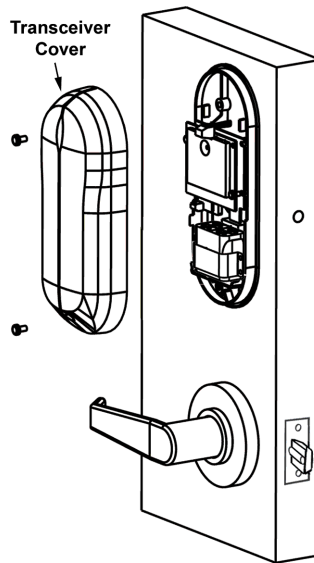

Figure 2-48 – MIRL Transceiver Cover
2.19.3 Install the MIRL Transceiver Cover and fasten with two secure T-10 TORX Transceiver Cover Mounting Screws (6-32 x 3/8") using the T-10 TORX L-key that is provided (Figure 2-48).